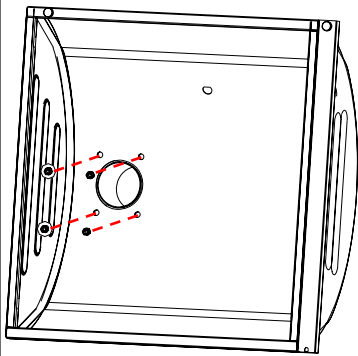
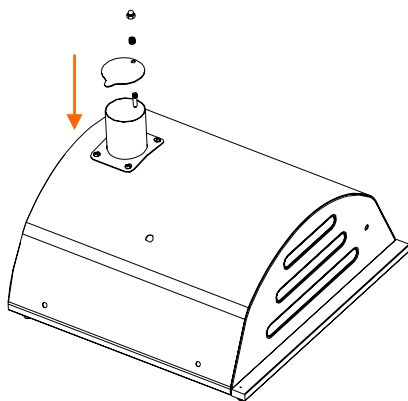
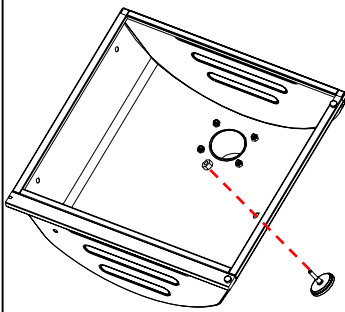
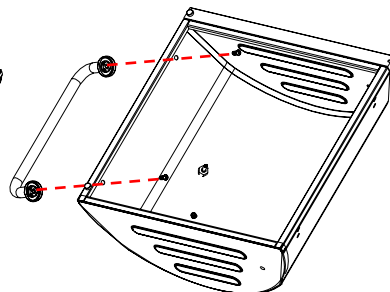

Fig. 13A
Fig. 13C
Fig. 13D
Fig. 13E
Refer to Fig. 13A and 13B Insert the Smoke Stack Assembly from INSIDE the Lid and fasten it to the Lid with (4) M6x15 bolts and KEPS nuts. NOTE: the bolts are inserted from the OUTSIDE of the Lid. Refer to Fig. 13C . Place the Smoke Stack Lid onto the threaded stud , add the small spring and then fasten with the Cap nut tight enough that the Lid can be rotated to open and close the Smoke Stack. Refer to Fig 13D and unscrew the nut from the stem of the Heat Indicator and follow the same procedure as before to install it to the Charcoal Grill Lid. Refer to Fig. 13E and attach the Lid Handle to the Lid with (2) M6x15 bolts.